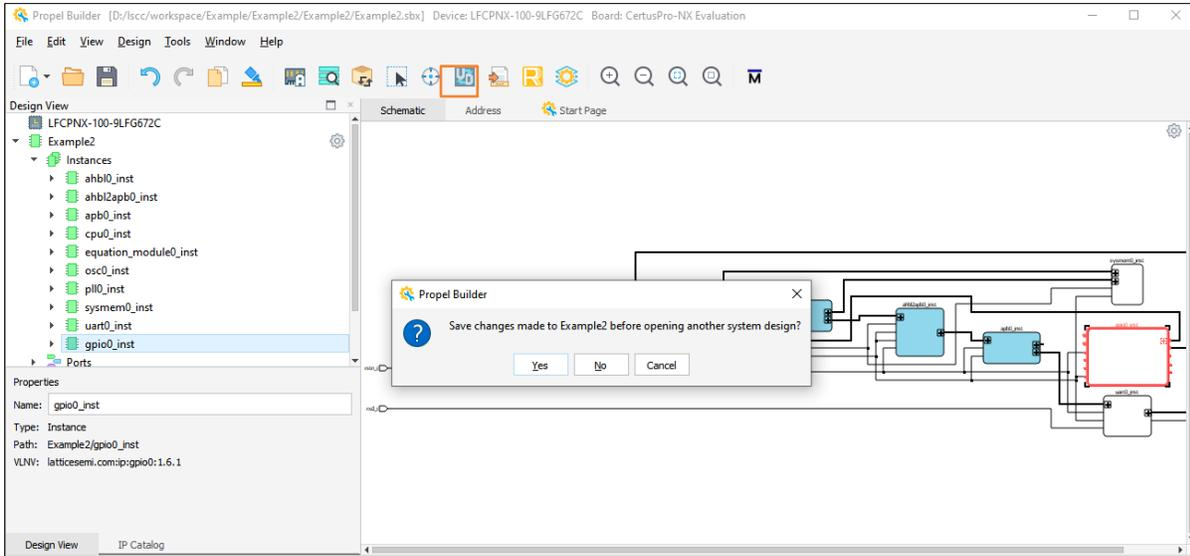

Figure 2.146. SoC Design Project
- From design project window, click **V/D** button . A dialog box opens prompting you to save the changes, if the current design project is not saved yet (Figure 2.146).
- SoC design project is called *****.sbx**. Verification project is called *****_v.sbx** (Figure 2.146).